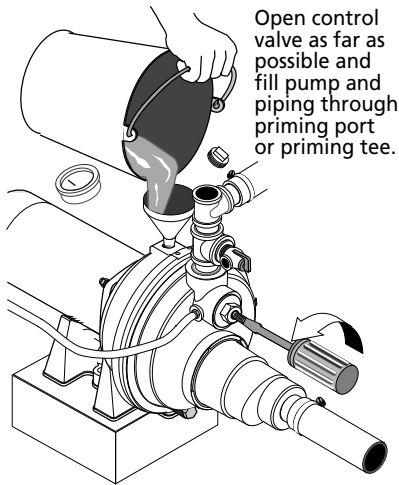

Figure 16 – Open Control Valve
1. Open the control valve as far as possible (See Figure 16). Then remove the priming plug from the pump and fill the pump, fill all piping between the pump and the well, and make sure that all piping in the well is full. If you have also installed a priming tee in the suction piping, remove the plug from the tee and fill the suction piping.